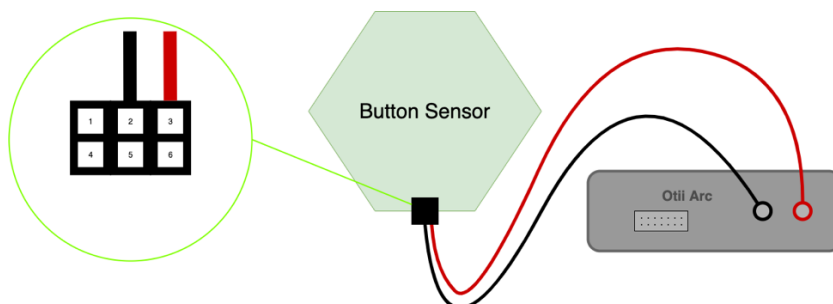

Figure 12 Connect the button sensor and the Otii Arc (LOC 2)
3. Collect the current measurements for each configuration at different moment. The test should last 15 min to be relevant. With this physical configuration, we can collect the values of the current flowing between the power supply and the motherboard (location 1) and between the power supply and the buttons module (location 2) (Figure 12). Multiple scenarios must be analysed with this module: